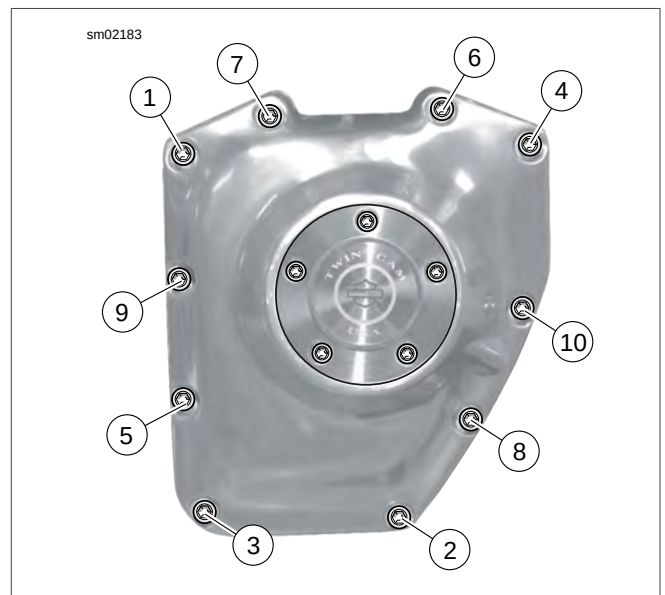

Figure 3-117. Cam Cover Screws
17. See Figure 3-117. Secure cover with socket head screws. Following the sequence shown, tighten the screws to 90-120 **in-lbs** (10.2-13.6 Nm).